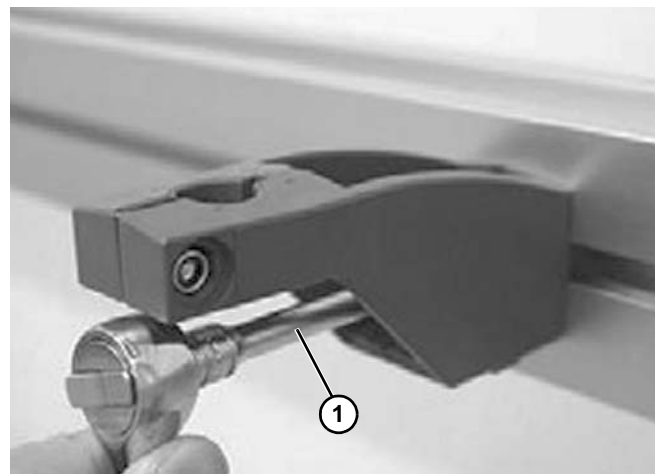

Figure 92
2. Attach the bracket onto conveyor beam and tighten with a socket wrench (Figure 92, item 1). Install upper and lower caps.